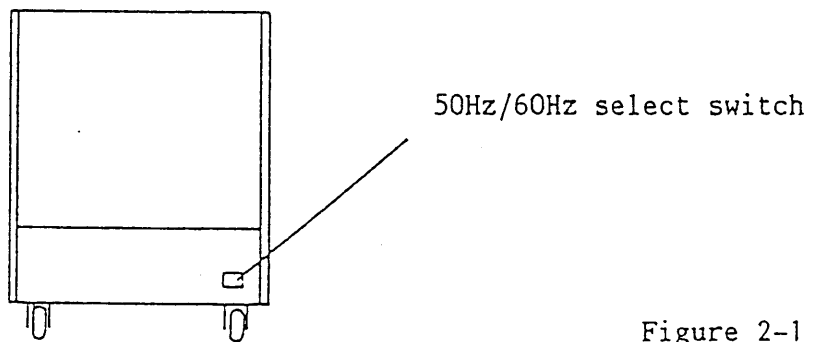

Figure 2-1
- The switch to select 50 or 60 Hz line frequency is located on the rear panel as shown in Figure 2-1.